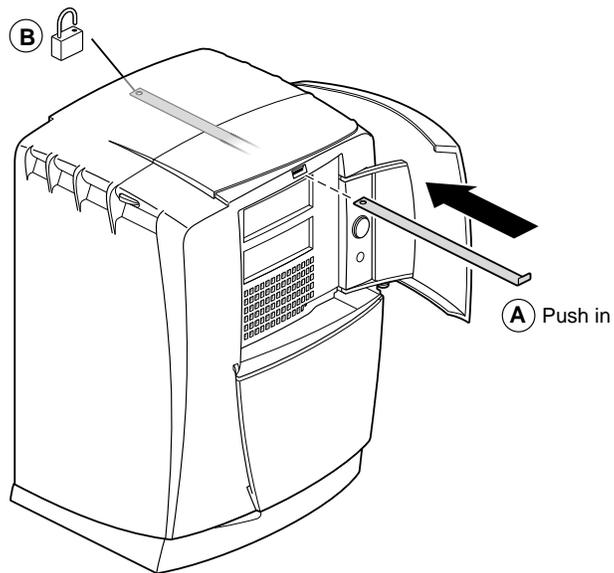

Figure 2-28 Installing the Lockbar
- Slide the lockbar into the lockbar slot (see A in Figure 2-28).
- Insert the lock (B) through the lockbar at the back of your workstation.